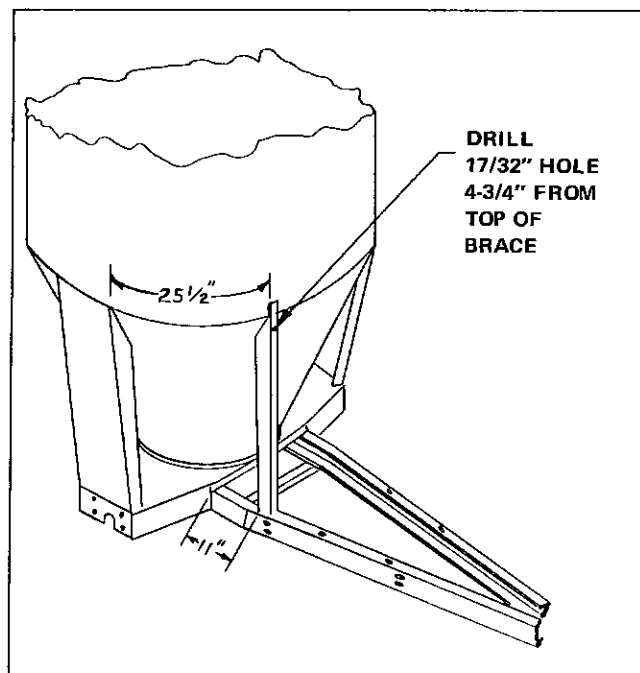

Figure 1 — Tank Brace Location
2. Locate tank brace to frame as shown in Figure 1. Weld brace securely to tank and frame junctions.
19. Install support rod, Item 28, page 19, through brace, Item 27, page 19, and attach to tank brace hole, See Figure 1, with (1) 1/2 x 1-1/2 hex cap screw, lock washer and hex nut. With hex nut on each side of brace, Item 27, page 19, tighten nut on support rod until clearance under mill throat is even at both front and rear of mill throat. Tighten nuts on support rod securely.